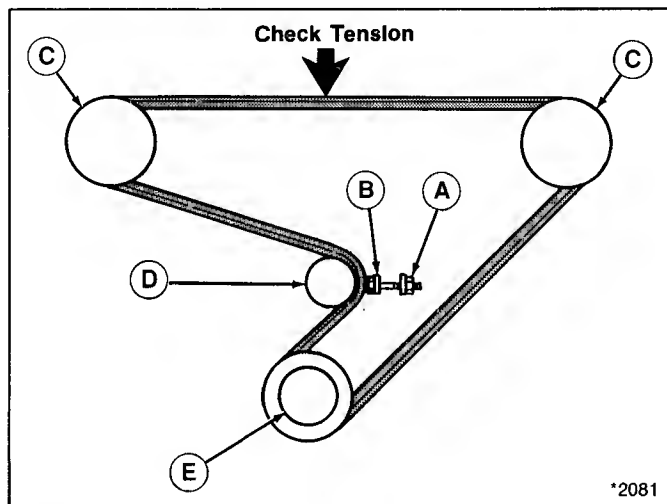

Figure 32.
Belt tension can be increased or decreased by turning the adjustment nut (A, figure 32) after idler pulley hardware (F) is loosened. This nut controls the movement of the idler pulley bracket (B) from side-to-side. Adjust belt tension so there is 3/4" deflection measured halfway between pulleys (C).